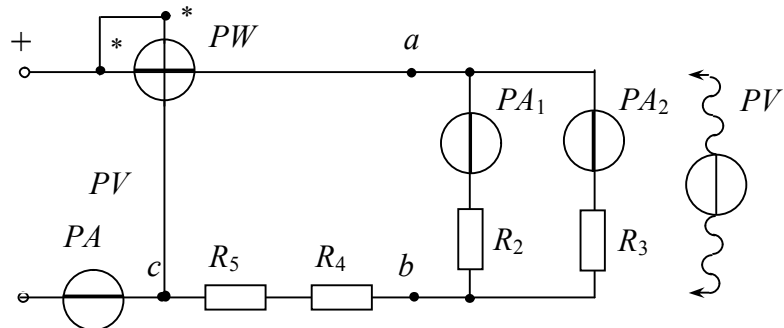

Fig. 2.18
1. To collect the circuit (fig. 2.18) and connect it to the clamps $\langle - \rangle \langle 0 \div 120 V \rangle$. To place *LATR* switch in position $\langle - \rangle, \langle 0 \div 120 V \rangle$.
2. To investigate the circuit with mixed connection of resistors (fig. 2.18). To set the input voltage given by tutor ($80 \leq V \leq 100 V$). To write down the results to the table 2.2 item 2.
3. To investigate the circuit with parallel connection of resistors R_2, R_3 . To short the series subcircuit R_4, R_5 (points b, c fig. 2.18). To set the input voltage given by tutor ($14 \leq V \leq 18 V$). To write down the results to the table 2.3.
4. To investigate the circuit serial connection of resistors R_4, R_5 . To shorten the parallel subcircuit R_2, R_3 (points a, b fig. 2.18). To set the circuit current given by tutor ($170 \leq I \leq 200 mA$). To write down the results to the table 2.4.
The name and purpose of the work. Homework – the calculation of the circuit. Schematic diagram of the investigated circuit (fig 2.18). Tables 2.2, 2.3, 2.4. The schemes of circuits of current divider and voltage divider. The results of calculations. Conclusions.